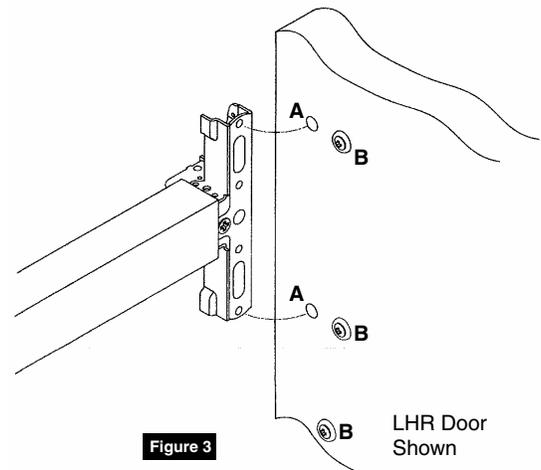

Figure 3
6. Mount trim to door through holes “B”. Fasten, finger tight only, with three (3) screws and washers seating on door, as shown. (Figure 3) Bottom screw and washer engages lower post on pull.